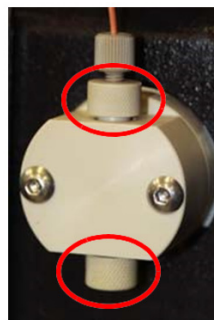

Figure 5-34 Check valve holder
1. Remove the inlet and outlet lines from the check valve holders (Figure 5-34), and then remove the check valve holders. Pliers may be needed to remove the holders.